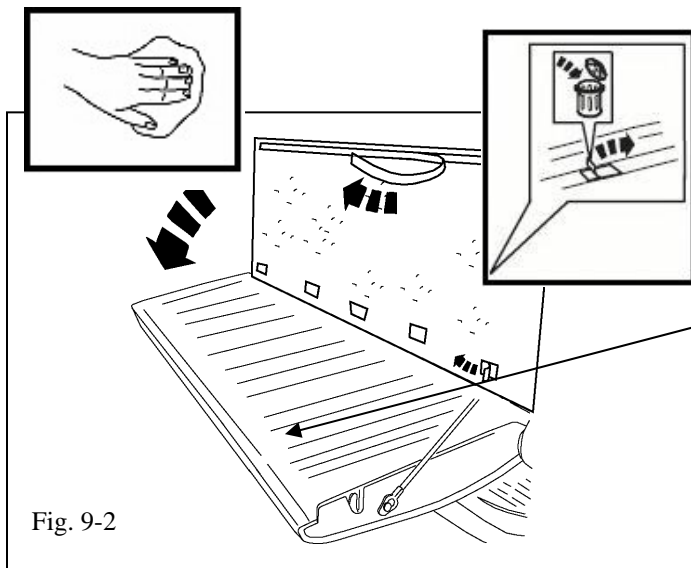

Fig. 9-2
- (d) Remove the film and align the edge of the bed liner tailgate section to the top edge of the tailgate. (Fig 9-2)